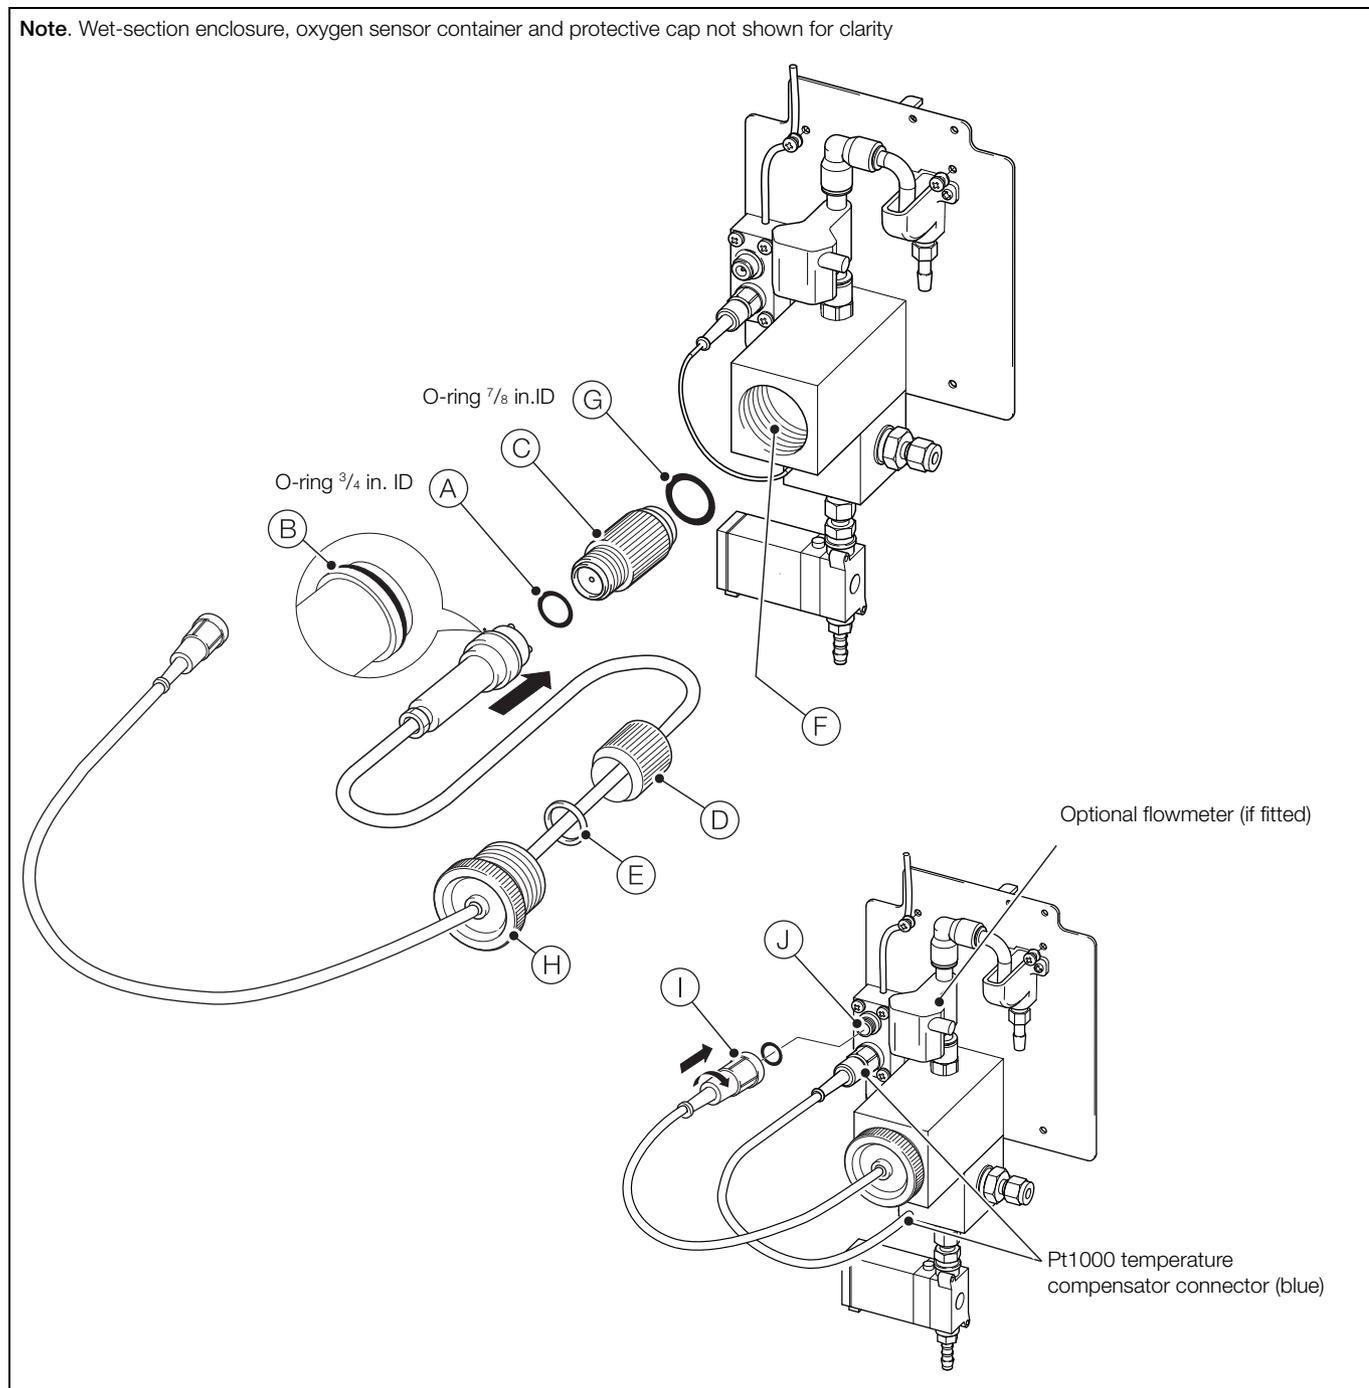

Fig. 4.1 Fitting and connecting the dissolved oxygen sensor – ADS550
- Fig. 4.1, page 22 for ADS550: